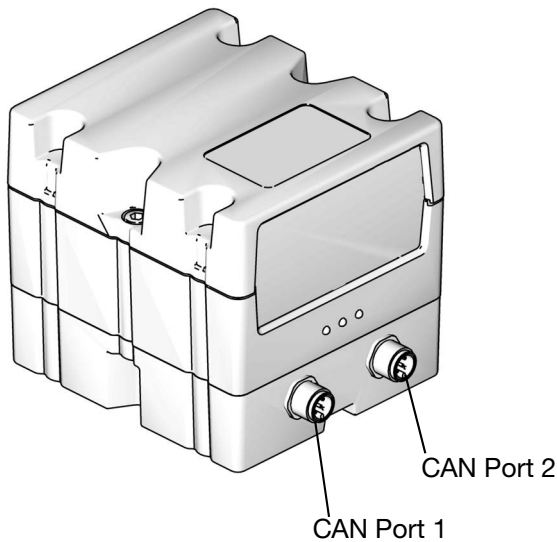

FIG. 22: CGM CAN Connections
10. Connect the other end of the CAN cable to either CAN port 1 or 2 on the CGM. See **FIG. 22**. It can be connected to either port.